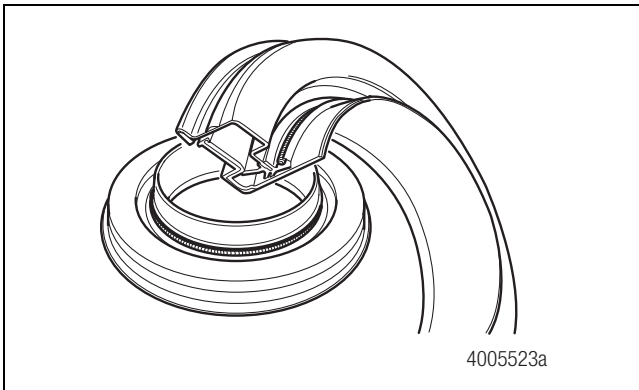

Figure 5.10
1. Remove the replacement multiple lip seal from the package. Figure 5.10.